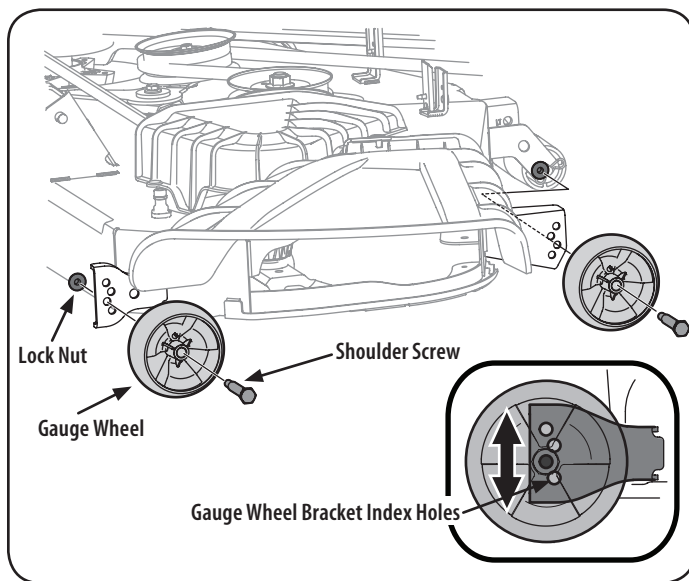

Figure 5
2. Remove the flange lock nut securing the gauge wheel shoulder bolt to the deck. Remove the gauge wheel and shoulder bolt. Refer to "Figure 5".